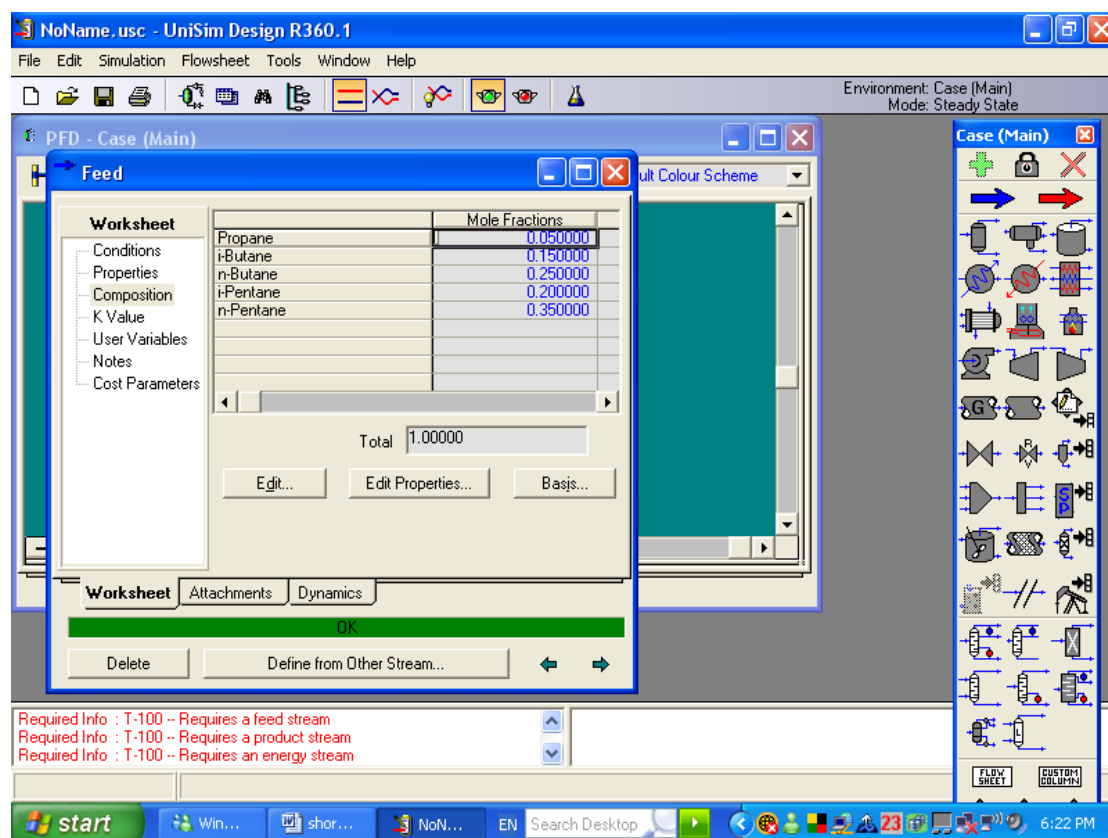

Figure K-16. Snapshot of the Feed window showing the total mole fraction of the components.
Step 16. The total Mole fraction is 1.0 as shown in Figure K-16. Close this window and double click on the column icon on the PFD window.